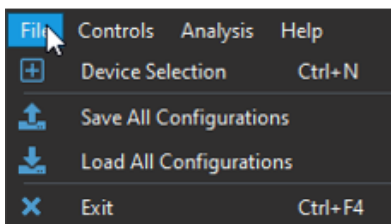

Figure 3.4: File menu
1. The **File** option (Fig. 3.4) is used to open the **Device selection** window to add the device-specific interface (see Fig. 3.1), **Save All Configurations**, **Load All Configurations** (more details are presented at Section 3.4) and also used to **Exit** the software.
The latest versions of Doric Neuroscience Studio now offer the possibility to save the configurations of multiple Doric devices in a unique, Master configuration file, through the **Save All Configurations** option available in the **File menu** (Fig. 3.4). This Master configuration file can then be reopened for subsequent experimental sessions using the **Load All Configurations** option (Fig. 3.4).